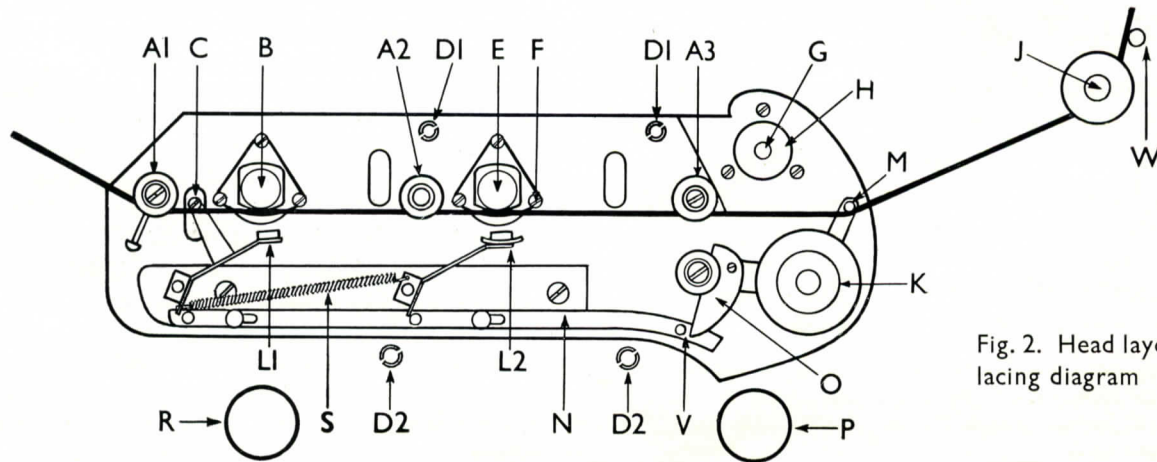

Fig. 2. Head layout and tape lacing diagram
Before loading the tape for the first time, remove the head covers in order to familiarise yourself with the position of the components, the working of the pressure pads and pinch wheel. The upper half of head cover is a pressed fit, and needs only to be lifted from its retaining posts; the lower half is held in position by two screws. To load tape, place full reel on left-hand spindle and thread as shown on the diagram (Fig. 2). With the tape correctly threaded, give the deck a trial run preparatory to making a recording, thus familiarising yourself with the switching operations.
- 2 Fit reel of tape to left-hand (feed) spoolholder and lace the tape as per diagram (Fig. 2) to the empty take-up spool (right-hand), ensuring that the "sensitive" side of the tape faces the heads. (Most tapes have a "glossy" side and a "dull" side—it is the "dull"-side which is coated with iron oxide and is the sensitive side).